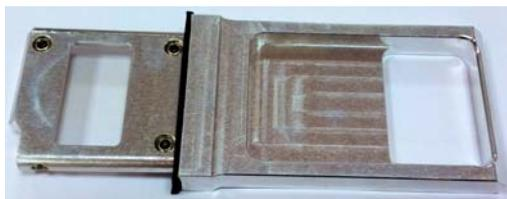

Figure 8-3. POP window holder
3. Withdraw the POP window holder, Figure 8-3.